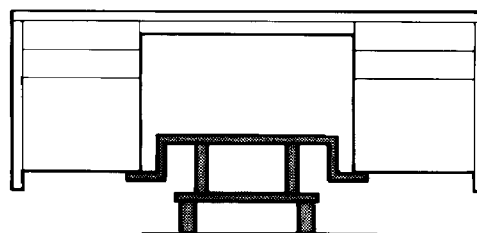
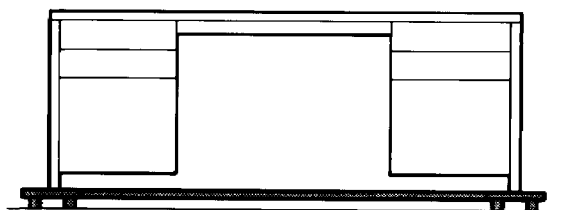
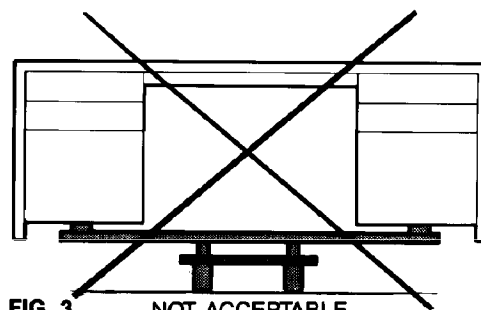

FIG. 1 DESK LIFT MECHANISM
FIG. 2 CASTOR CART
FIG. 3 NOT ACCEPTABLE
2. Remove adhesive backing from the light block gasket and press the gasket into place along the side edge of the modesty panel, centering the gasket vertically and horizontally (Fig. 3).
2. Remove the #12-11 X 1" truss head screws which attach the return to the support bracket and set them aside (Fig. 2). Remove screws from return connector bracket. Set the bracket and screws aside (Fig. 3).
When moving a desk in a horizontal position, either a desk lift mechanism or a castor cart may be used. When using a lift mechanism, the lift arms must pick up on the inside edge of the drawer pedestal housing (Fig. 1). If a castor cart is used, the cart must be placed under the end panels (Fig. 2). Lifting or transporting the desk by lifting under the center of the pedestal units will damage the housing and prevent operation of the drawers (Fig. 3).